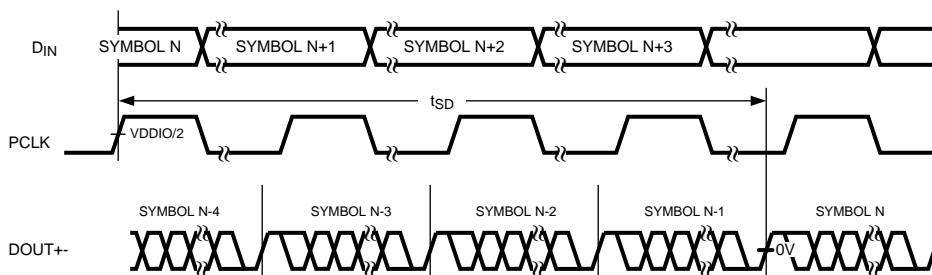

Figure 11. Serializer Delay
| $t_{SD}$          | Serializer Delay (2)$R_T = 100 \Omega$ , 10-bit modeRegister 0x03h b[0] (TRFB = 1) (Figure 11)   | 32.5T  | 38T   | 44T | ns   |